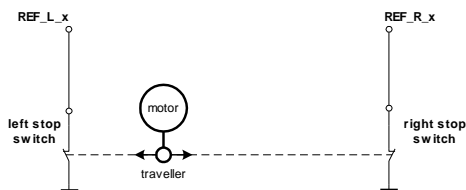
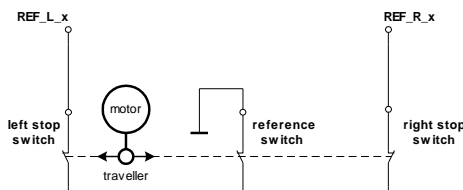

Figure 9.1: Two limit switches
Figure 9.2: Limit switches with extra reference switch
- In Figure 9.1 the connection of the left and the right limit switch is shown. Figure 9.2 shows the connection of three switches as left and right limit switch and a reference switch for the reference point. The reference switch is connected in series with the left limit switch. The differentiation between the left limit switch and the reference switch is made through software. Switches with open contacts (normally closed) are used.